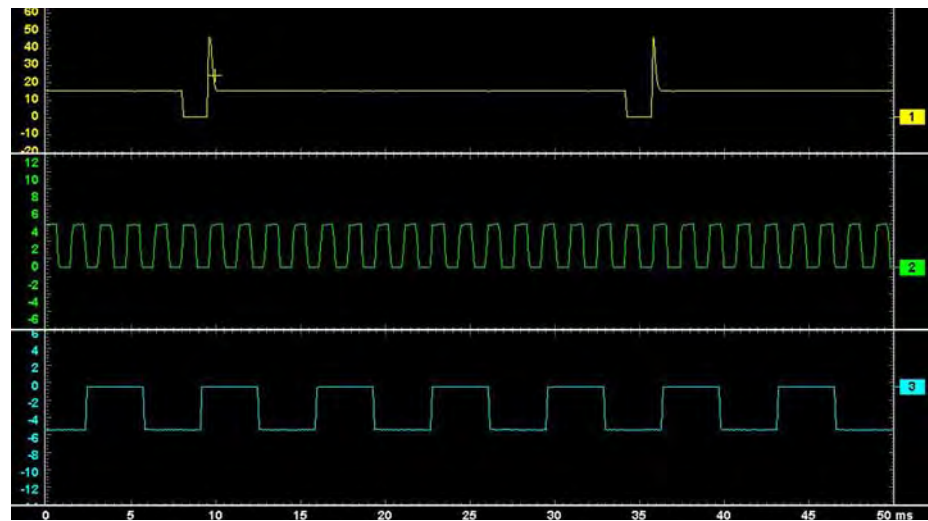

Figure 8-22 Sample 3 Windows display
- **3 windows**—shows three traces, one below another, on the same screen (Figure 8-22).